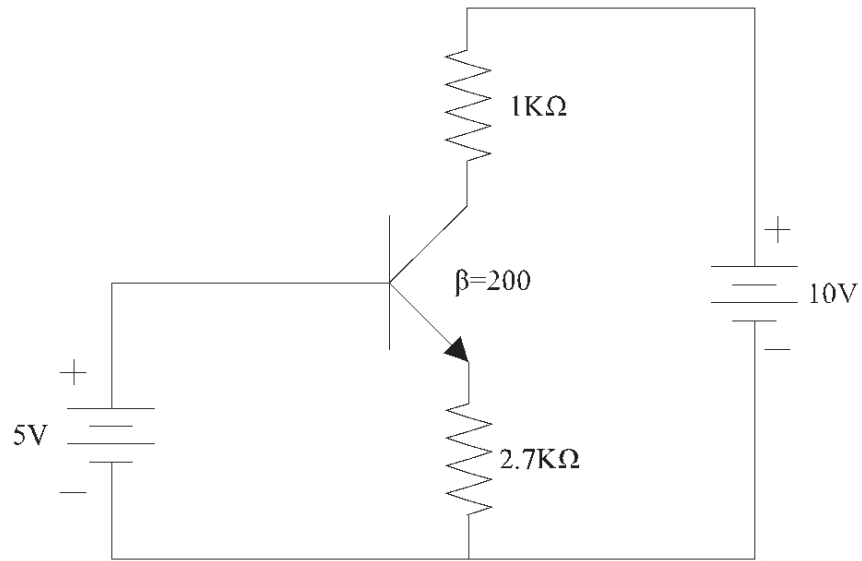

Figure 4-34. Circuit of exercise 4.18.
4.18. Consider the circuit in Figure 4.34.